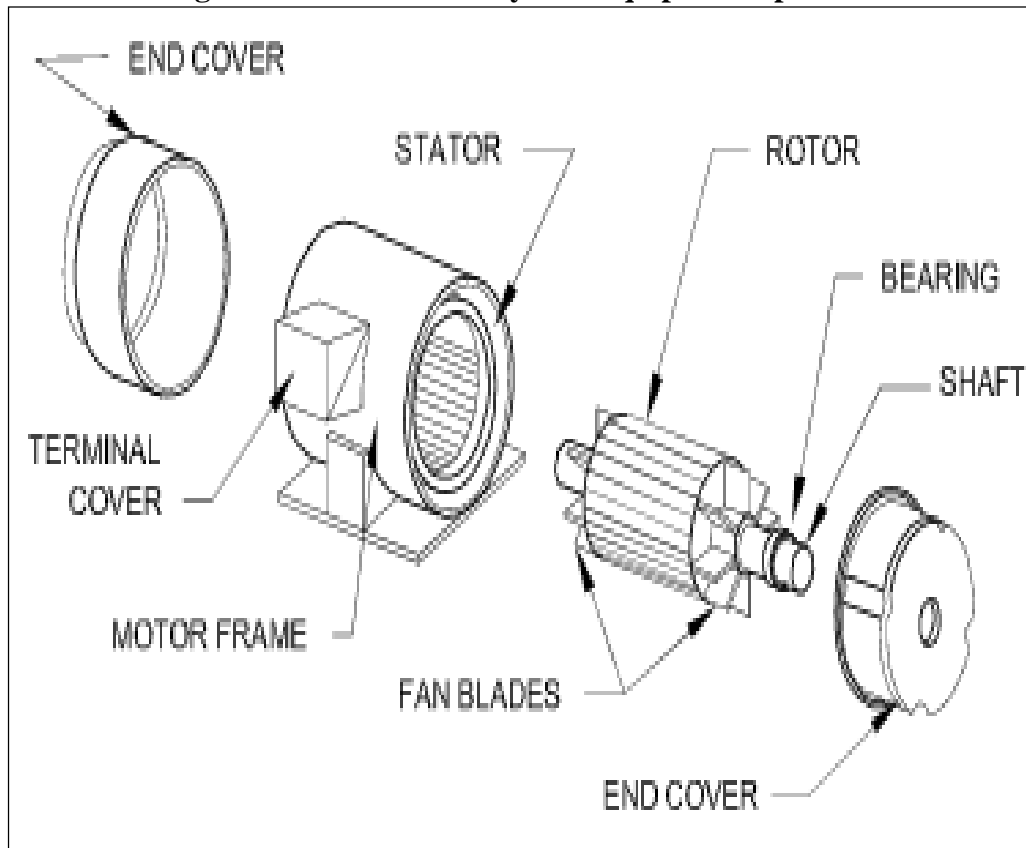

Fig.6.3- 3 Phase Squirrel Cage Induction motor
2. Identify the parts of the AC squirrel cage induction motor from the real objects or from the exploded view chart (fig.6.3/6.4)